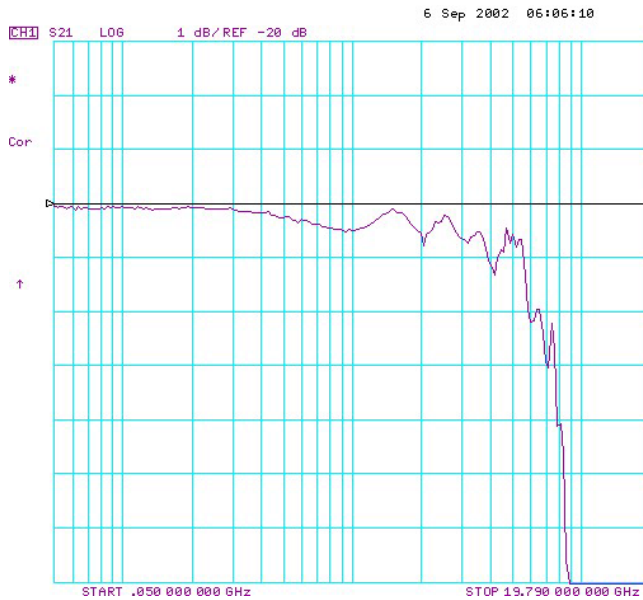

Figure 231 Typical V_{out} Waveform for an 1134B Probe
- 43 The display on screen is V_{out} and it should be similar to that shown in **Figure 231** on page 212.